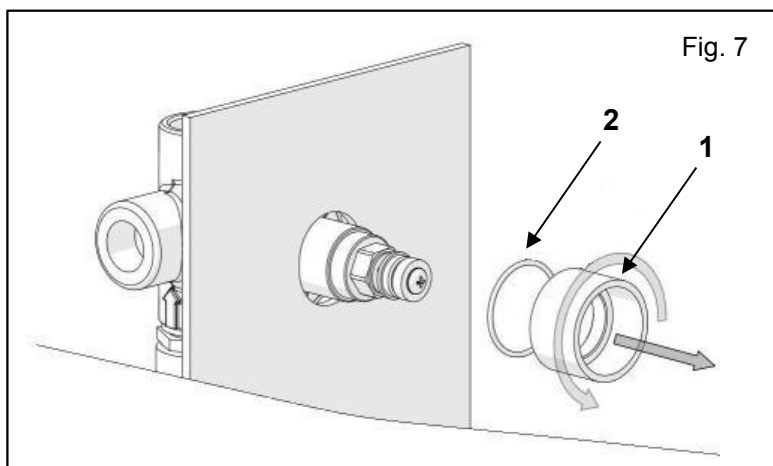

Fig. 7
- 2) Unscrew counterclockwise trim rings (1) (1 or 2 depending on the model) taking care of not damaging the O-ring gaskets (2). (Fig.7)